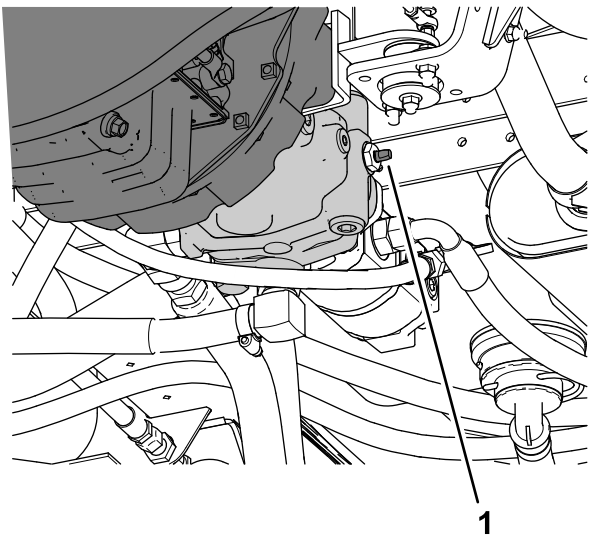

Figure 50
3. Rotate the tow valve (Figure 50) 90° in either direction to open the tow valve.